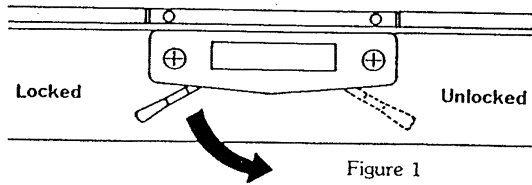

Figure 1
1. Unlock sashes (top and bottom) by disengaging lock(s) at meeting rail. (Figure 1)
8. Lock sashes (top and bottom) by engaging lock(s) at meeting rail. (Figure 1)